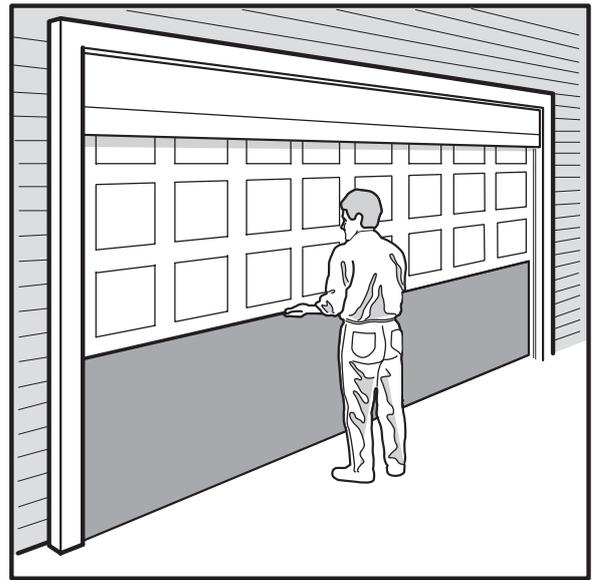

Fig: 3.8.1
- Lift the door to about halfway. When released, the door should stay in place. Fig 3.8.1.